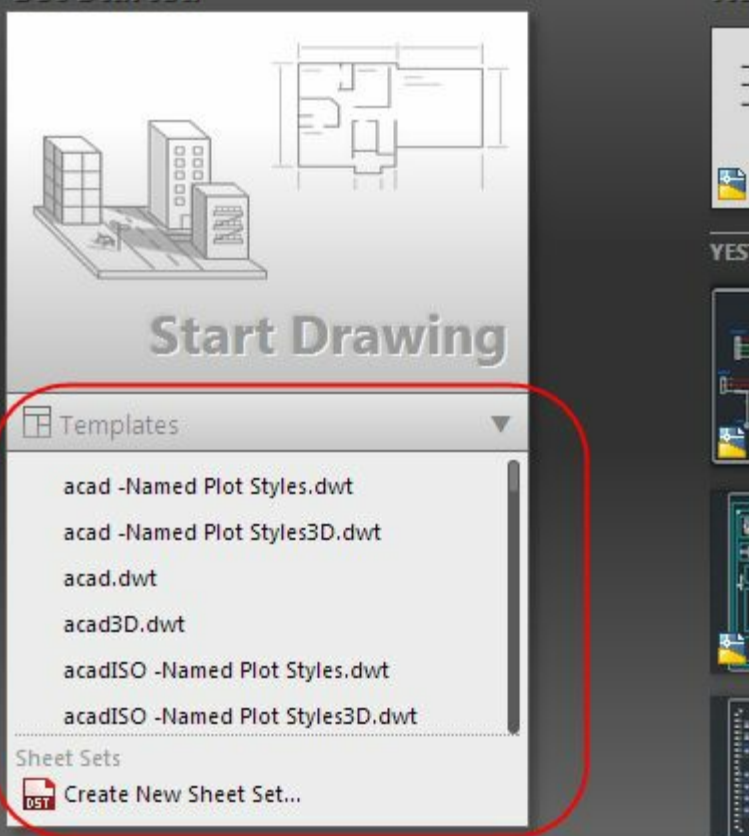

Figure-3. Drawing templates
- Click on the down arrow below **Start Drawing** button from the template area. The list of drawing templates will be displayed; refer to Figure-3.